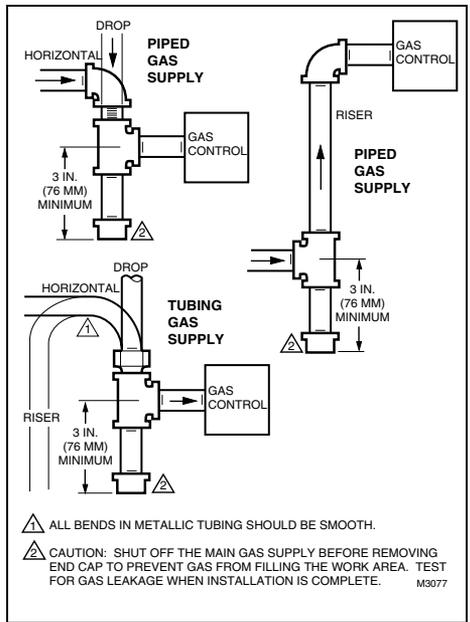

Fig. 2—Sediment trap installation.
3. Install sediment trap in the supply line to the gas control. Refer to Fig. 2.
1. Remove pilot adjustment cover screw. Refer to Fig. 2 or 3.
2. With main burner operating, check gas control outlet gas flow using the meter clamping method or pressure using a manometer connected to the outlet pressure tap on the gas control. Refer to Fig. 2 or 3.